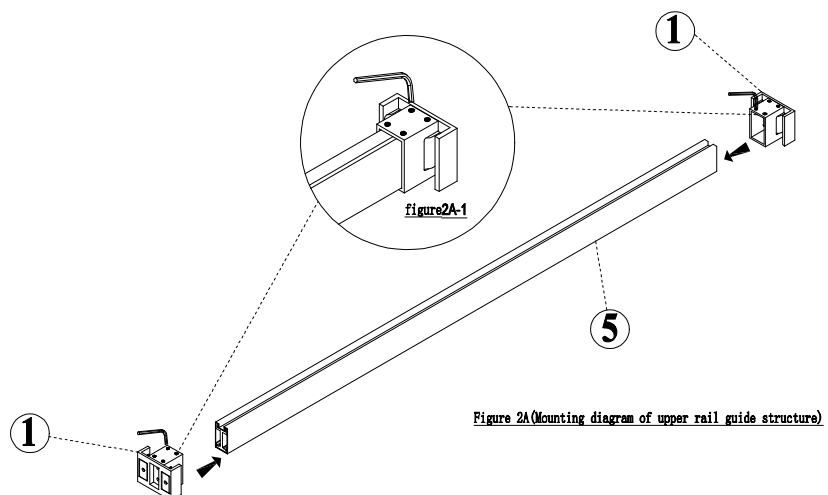

Figure 2A(Mounting diagram of upper rail guide structure)
2. Push the wall pedestal (1) onto the upper guide rail (5) — see Figure 2A.
3. Fasten the two hexagon screws on the wall base (see Figure 2A-1), and repeat the same procedure for the other end.